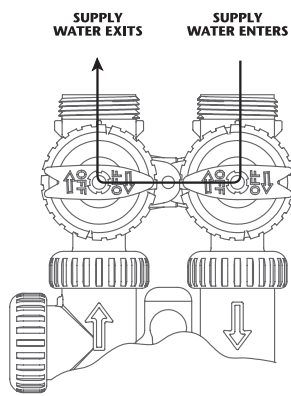

FIGURE 2
2. **BYPASS POSITION:** The inlet and outlet handles point to the center of the bypass. The system is isolated from the water pressure in the plumbing system. Untreated water is supplied to the building (**Fig. 2**).